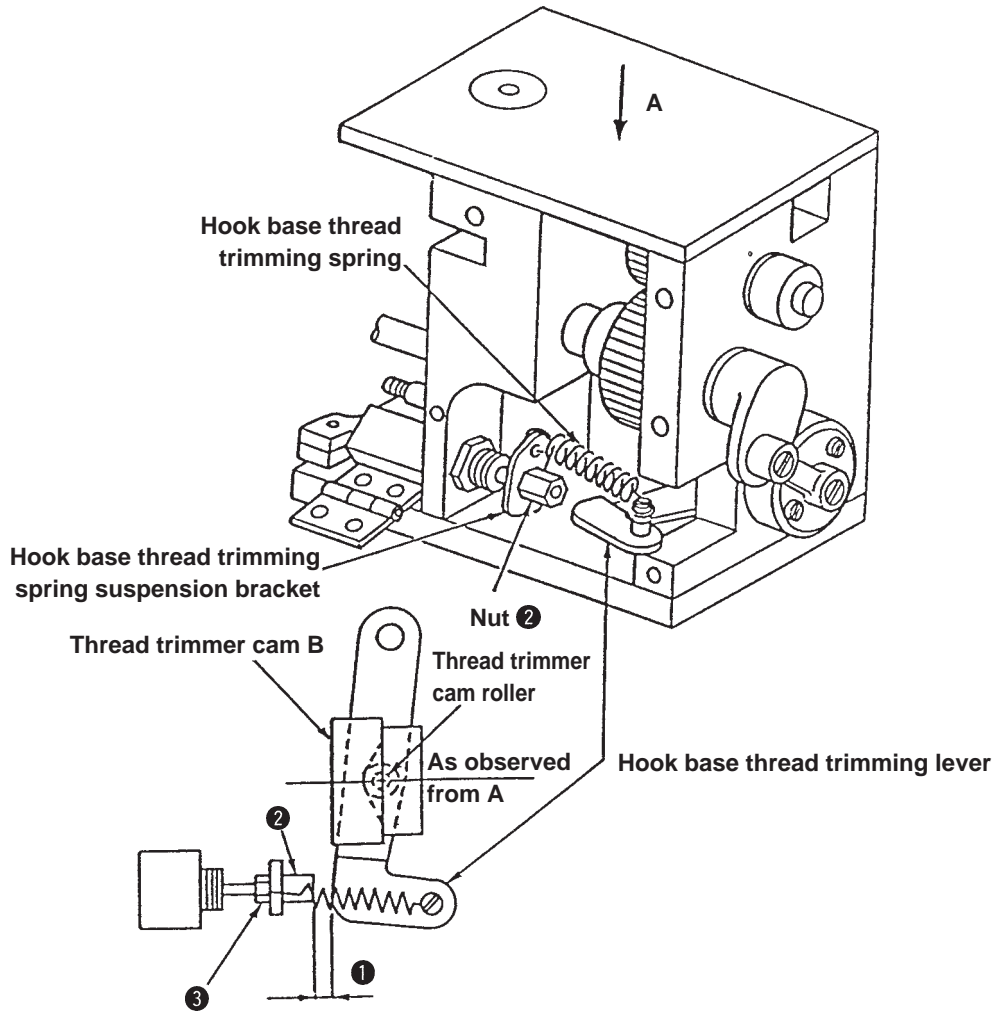

Fig. 1
The clearance of ① is 1 mm at the stroke end of the pulling side of the thread trimming cylinder when the thread trimming cam is as shown in Fig. 1 (concave of the thread trimmer cam comes below).